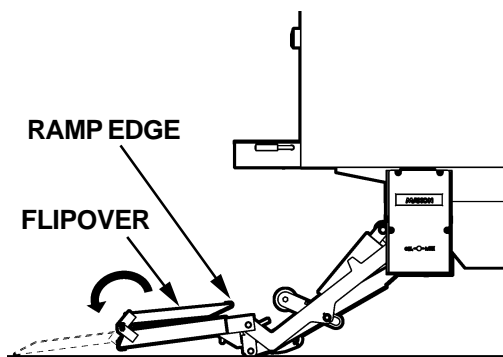

FIG. 4
3. Standing to the side of the Platform (FIG. 4), unfold Flipover by the Ramp Edge as shown in FIG. 4.